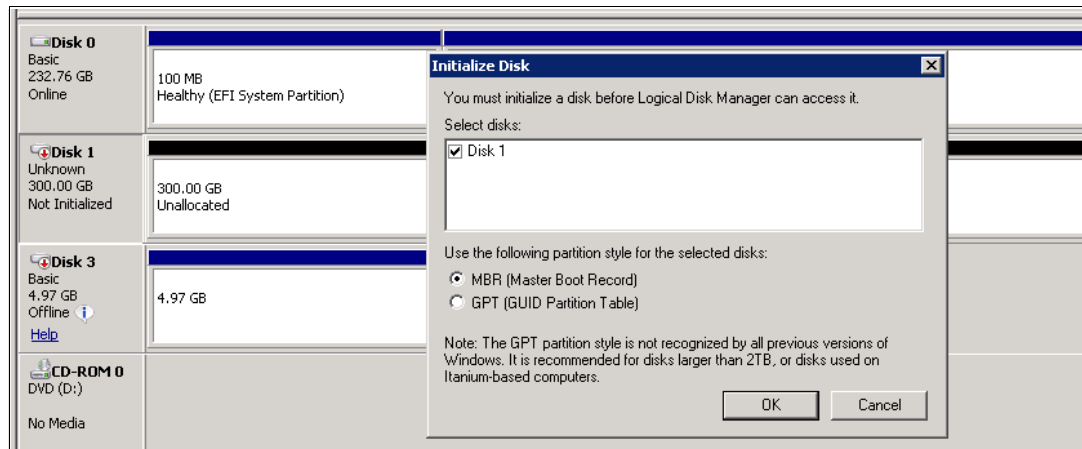

Figure 5-40 Initialize Disk option
8. Select an initialization option and click **OK**. In our example, we selected MBR, as shown in Figure 5-40.